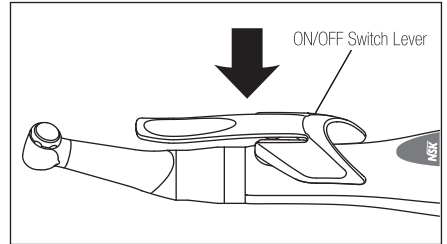

Fig. 6
- 1) Mount the ON/OFF Switch lever shown as Fig. 6.